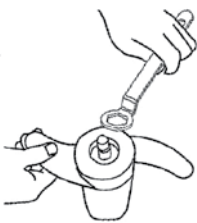

Figure 1
2. Hold the propeller blade with one hand and using the spanner included or needle nose pliers remove the propeller nut (see Figure 1).